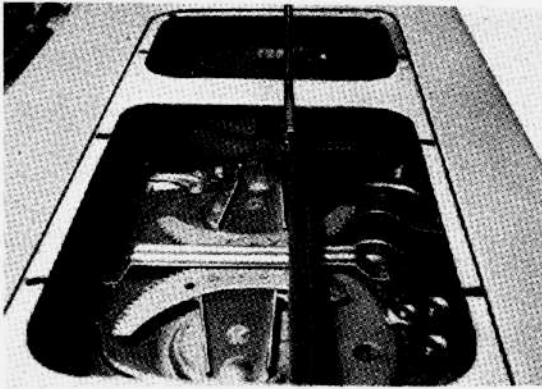

Fig.10-33 Removing Stop- per Plate B1208
3. Remove the stopper plate, and remove the roller guide. Refer to Fig.10-33.